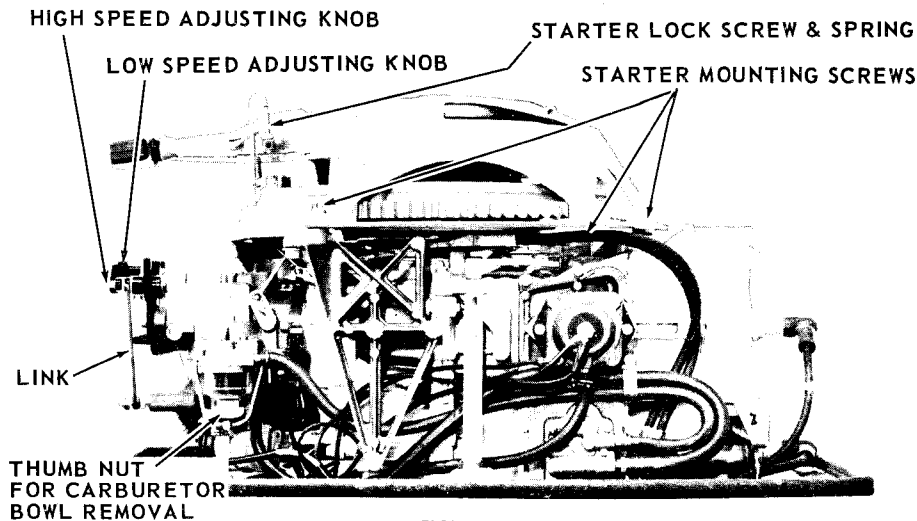

FIGURE 11
2. Remove starter lock screw and spring. (See Figure 11.)
3. Remove three screws mounting starter assembly to power-head — lift off starter assembly. (See Figure 11.)